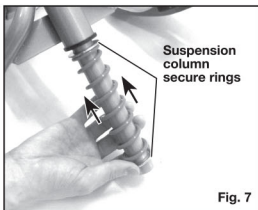

Fig. 7
8. Insert the Suspension column secure rings⑫ and Suspension column⑥ to the steering column as shown (See Fig. 7).